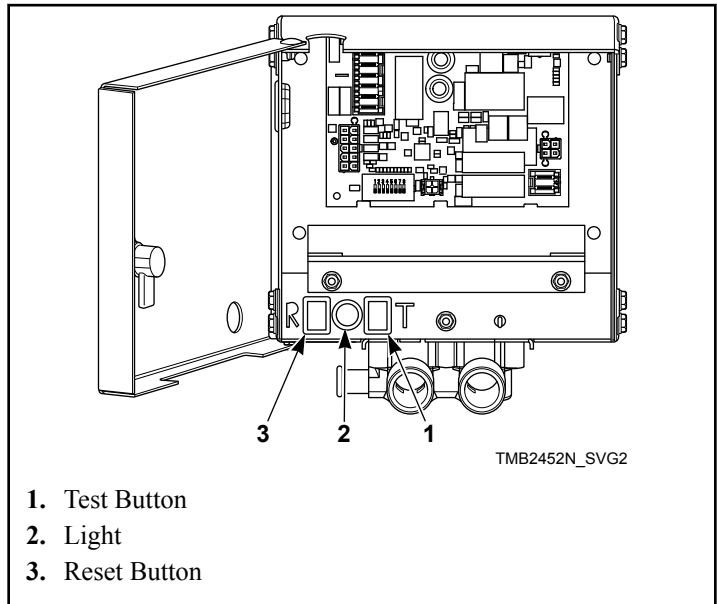

Figure 8
6. Press and hold the test button, verify the light is on, this should take approximately five seconds. Refer to *Figure 8*. After a one-second pause water should begin to spray into the cylinder.
7. After 15 seconds of water spray, press and hold the reset button until water spray is off and light is off. This should take approximately one second. Refer to *Figure 8* and *Figure 9*.